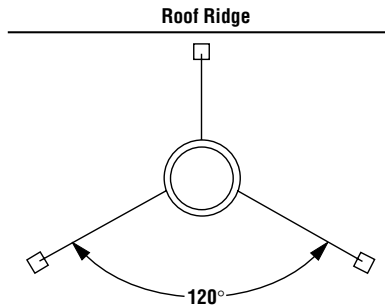

Figure 29
**Note:** If chimney extends more than 8' above roof surface, guy wires are also recommended. Use three (3) guy wires, attach to locking band assembly, extend and secure to roof in a triangular pattern (Figure 29). Guy wires are not supplied by the manufacturer.